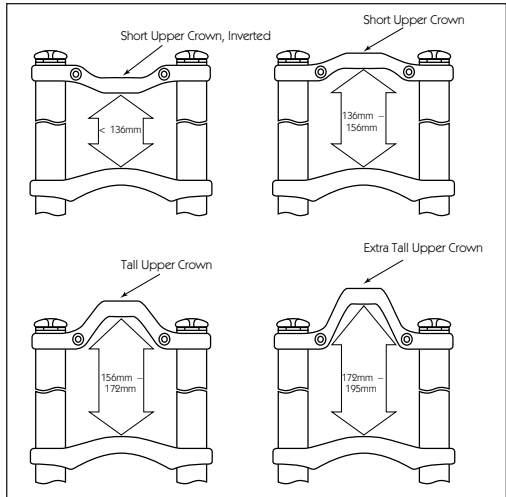

Fig. 2
2. Before you install a Judy XLC on the bicycle, verify that the fork has been supplied with the correct upper crown. Refer to Fig. 2 for upper crowns available for Judy XLC and to maximize fork stiffness by proper selection and orientation of the upper crown.